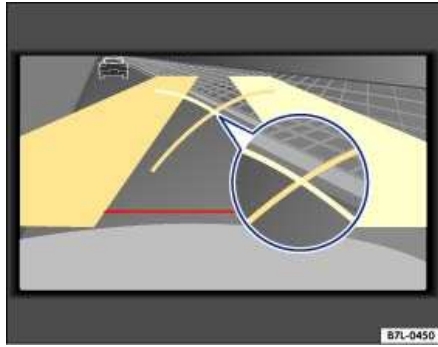

Fig. 18 Curve reaches curb – turning point reached.
- Back up until the light yellow line ⇒ Fig. 18 touches the side limit of the parking space (e.g. a curb).
Yellow lines (4) and (5)	Static display: The curves displayed identify the point in the parking maneuver when the steering wheel direction has to be changed ⇒ Fig. 18. If the curve touches the curb or another limit of the parking space, the reversing point has been reached and the steering wheel should be turned all the way in the opposite direction.